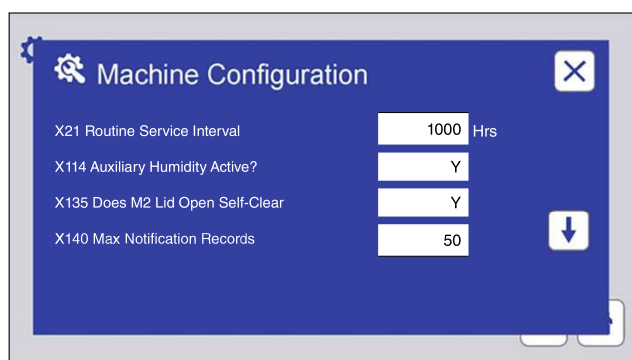
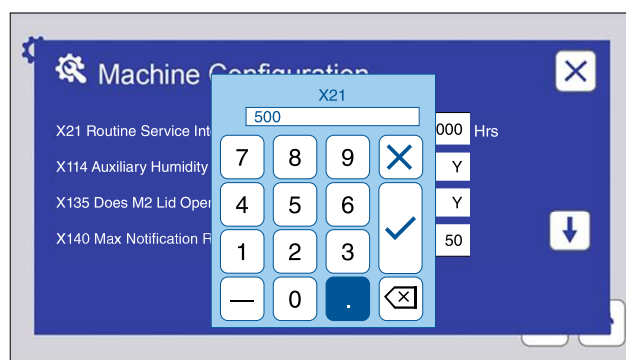

Figure 9.7u: Touch the down arrow to display additional parameters.
Figure 9.7v: Touch the parameter text box to use the numeric keypad to enter a value.
- o Machine Configuration (Figure 9.7u and Figure 9.7v). Contact Q-Lab Repair and Tester Support for more information on using this setting.
- On the Settings screen touch the Machine Configuration icon to display the screen (Figure 9.7u and Figure 9.7v).